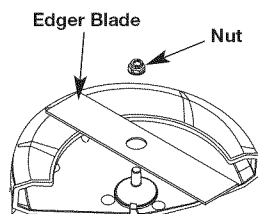

Fig. 17
4. Install the new blade and nut (Fig. 17).